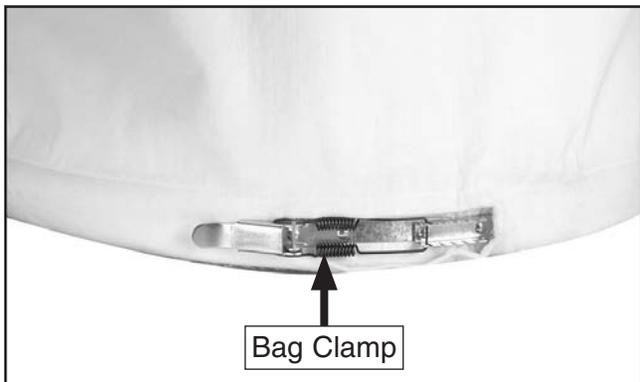

Figure 16. Example of bag clamp threaded into and around bottom seam of filter bag.
13. Thread bag clamp into and around bottom seam of upper filter bag. Then, slip bottom of filter bag with clamp over top lip of impeller housing, and engage locking mechanism of bag clamp to secure bag (see **Figure 16**).